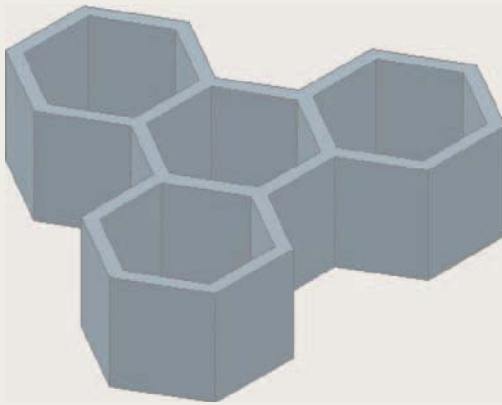

Fig. 12.47 Exercise 2
2. Figure 12.47 shows a 3D model constructed from four polysolids which have been formed into a union using the **Union** tool from the **Home/Modify** panel. The original polysolid was formed from a hexagon of edge length **30**. The original polysolid was of height **40** and **Width 5**. Construct the union.